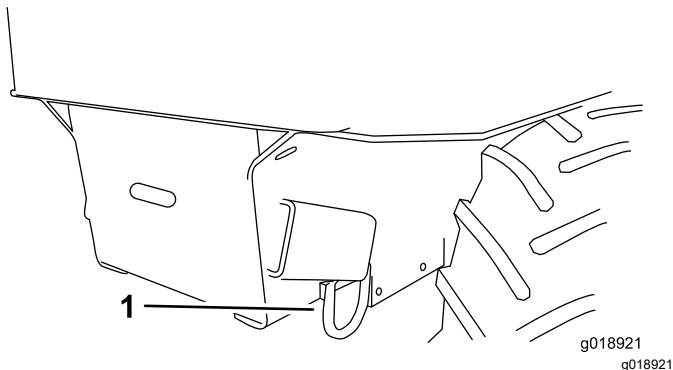

Figure 19
8. Fasten the front tie-down loops of the machine to the trailer (Figure 19).